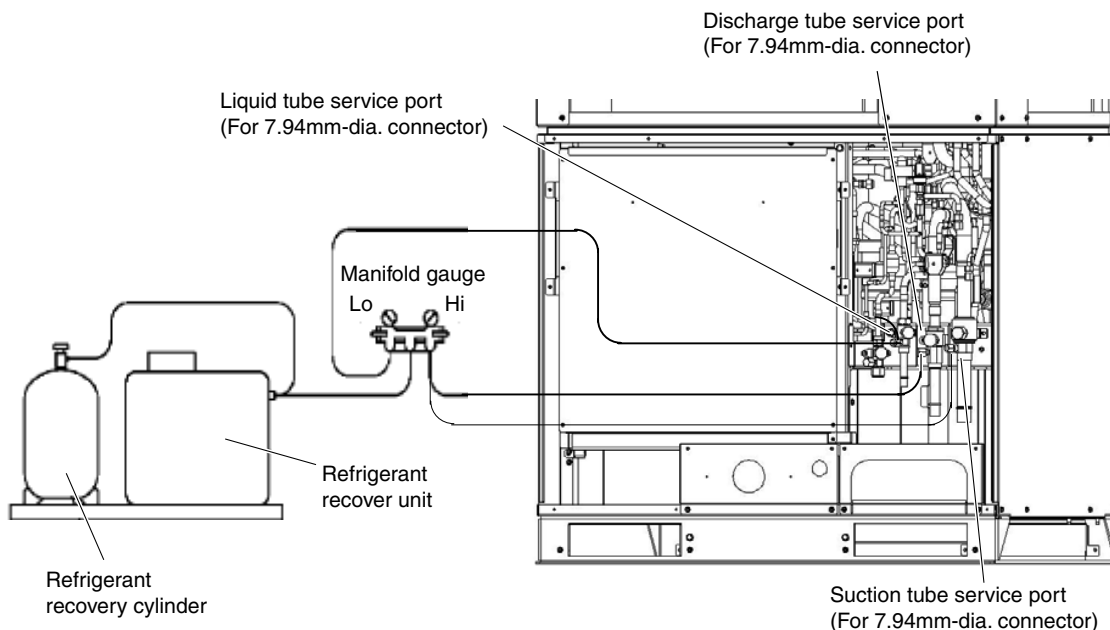

Fig. 9
- ⑤ Turn off power to all equipment in the system. Then pull out the RC1 connector (4P) (BLU) (CN106) on the outdoor control PCB in the outdoor unit for which pump down has been completed.
- ⑥ Change the setting of controllable outdoor unit numbers (reduce by 1 unit).
- ⑦ Turn on power for all equipment in the system and let the remaining outdoor units run in Cooling mode.
- ⑧ Repeat steps (1) through (7) and complete pump down for all outdoor units.
- ⑨ Using hoses with Schrader-type push-to-release valves, connect the manifold gauge valves to the suction line service port, the discharge line service port and the liquid line service port in the next outdoor unit to undergo pump down. (Fig. 9)
- (1) Turn off power to the entire outdoor system.
- (2) Short-circuit the AP (Air Purge) pins (CN102) on the outdoor control PCB of all outdoor units, then supply power to the outdoor units.
- (3) If any unit has encountered a power failure, follow the instructions in “5-1. Refrigerant Recovery Procedures (from Outdoor Units)” and perform refrigerant recovery for the faulty outdoor unit.
- (4) Connect the manifold gauge to the high- and low-pressure outlet ports (Schrader-type valves) on any outdoor unit. (Fig. 9)